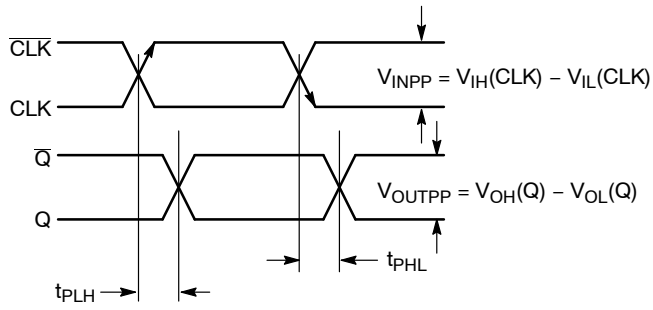

Figure 14. AC Reference Measurement
27. See Figure 14. tSKEW = |tPLH - tPHL| for a nominal 50% differential clock input waveform.
31. See Figure 14.  $t_{SKEW} = |t_{PLH} - t_{PHL}|$  for a nominal 50% differential clock input waveform.